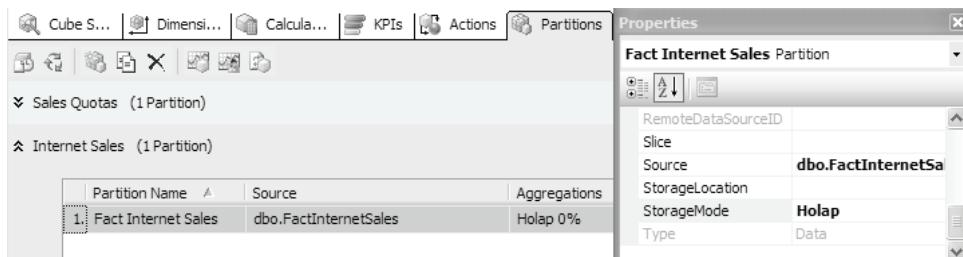

Figure 14.2 Use the Partitions tab to change the storage mode for a partition.
- Let's change the storage mode of Fact Internet Sales partition to *HOLAP*. In the Properties window, expand the StorageMode property dropdown and select *Holap* (Figure 14.2).